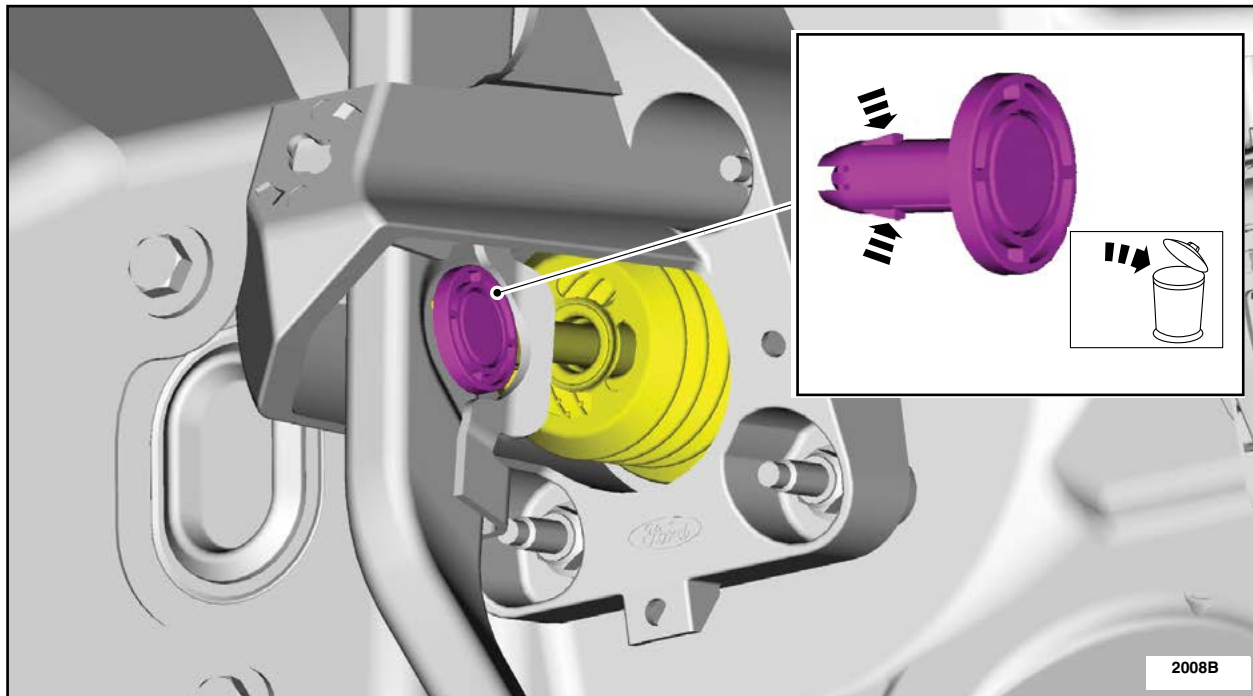

FIGURE 3
3. Remove and discard the booster push rod clevis-locking pin and position aside the booster push rod. See Figure 3.